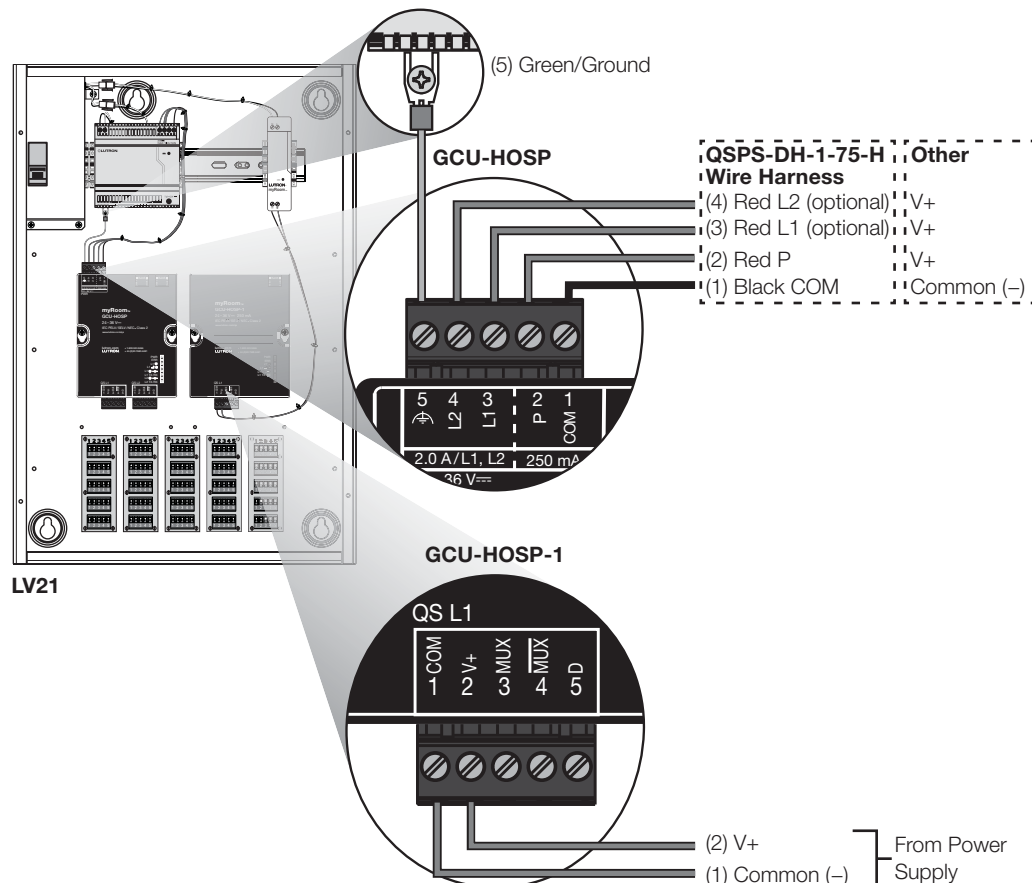

Figure 3 – Diagnostic LEDs
- 5. Verify operation:** Confirm that the unit is powered by referring to the PWR LED on the front of the unit. Further diagnostic information can be obtained from the additional diagnostic LEDs on the unit. Please refer to **Figure 3** for explanation of the diagnostic LEDs.